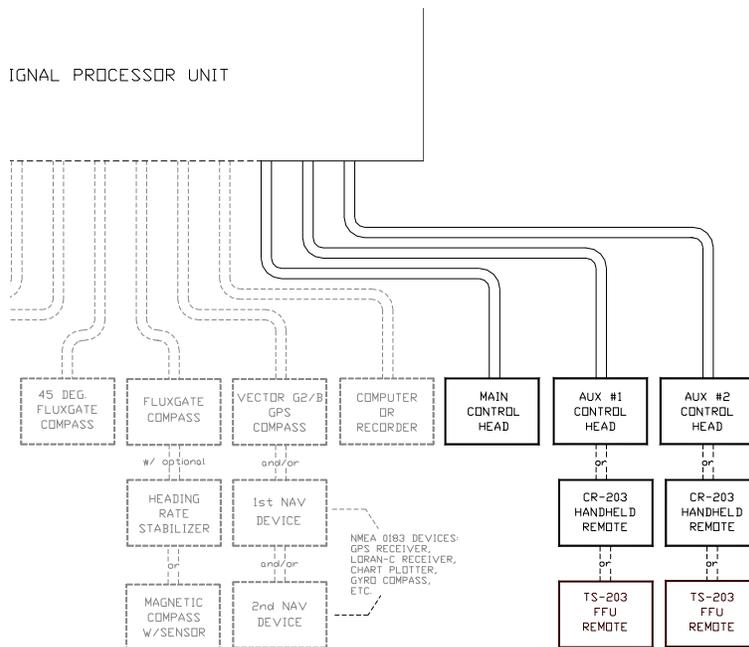

Figure 1 – P Series Autopilot System (partial diagram)
1. Place the FFU in the desired location. Mark the centre position of the four mounting holes and approximate location for the cable through panel (see Figure 1 for Detail Dimensions).
1. Place the FFU in the desired location. Mark the centre position of the four mounting holes (see Figure 1 for Detail Dimensions).